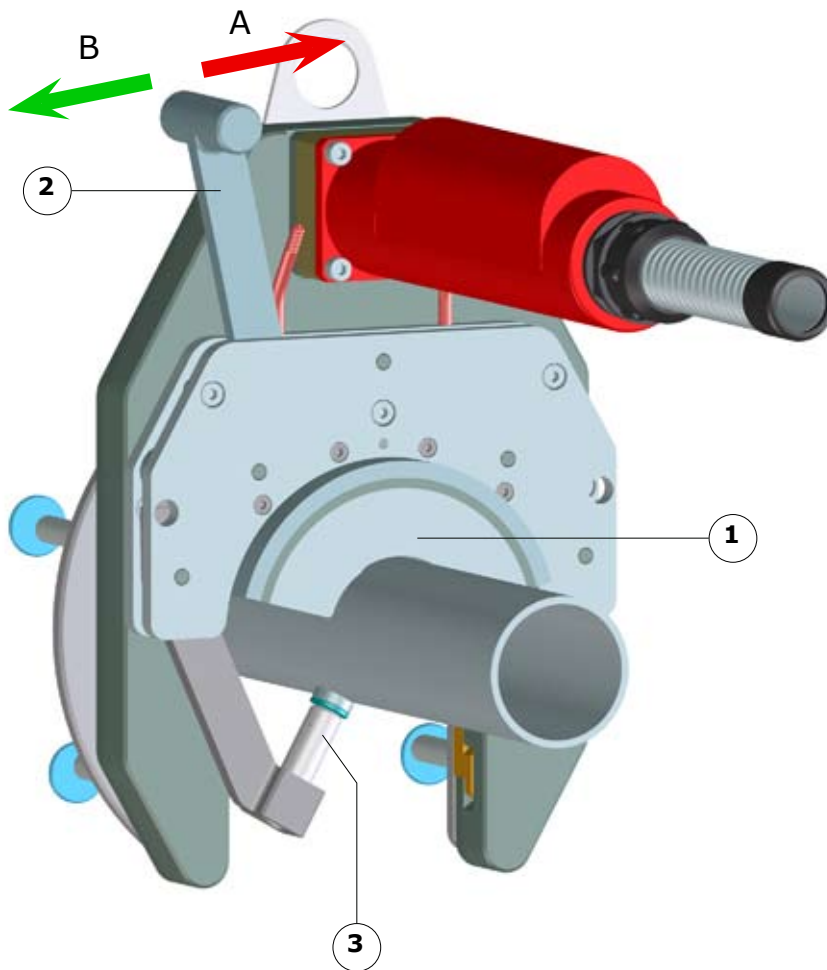

Fig.5.15 - Shell clamps
- Install the shell corresponding to the diameter of the tube in the clamp (Fig.5.15 - 1).
- Close the clamp using the control lever (direction A) (Fig.5.15 - 2).
- Adjust the screw (Fig.5.15 - 3) until it is in contact with the tube.